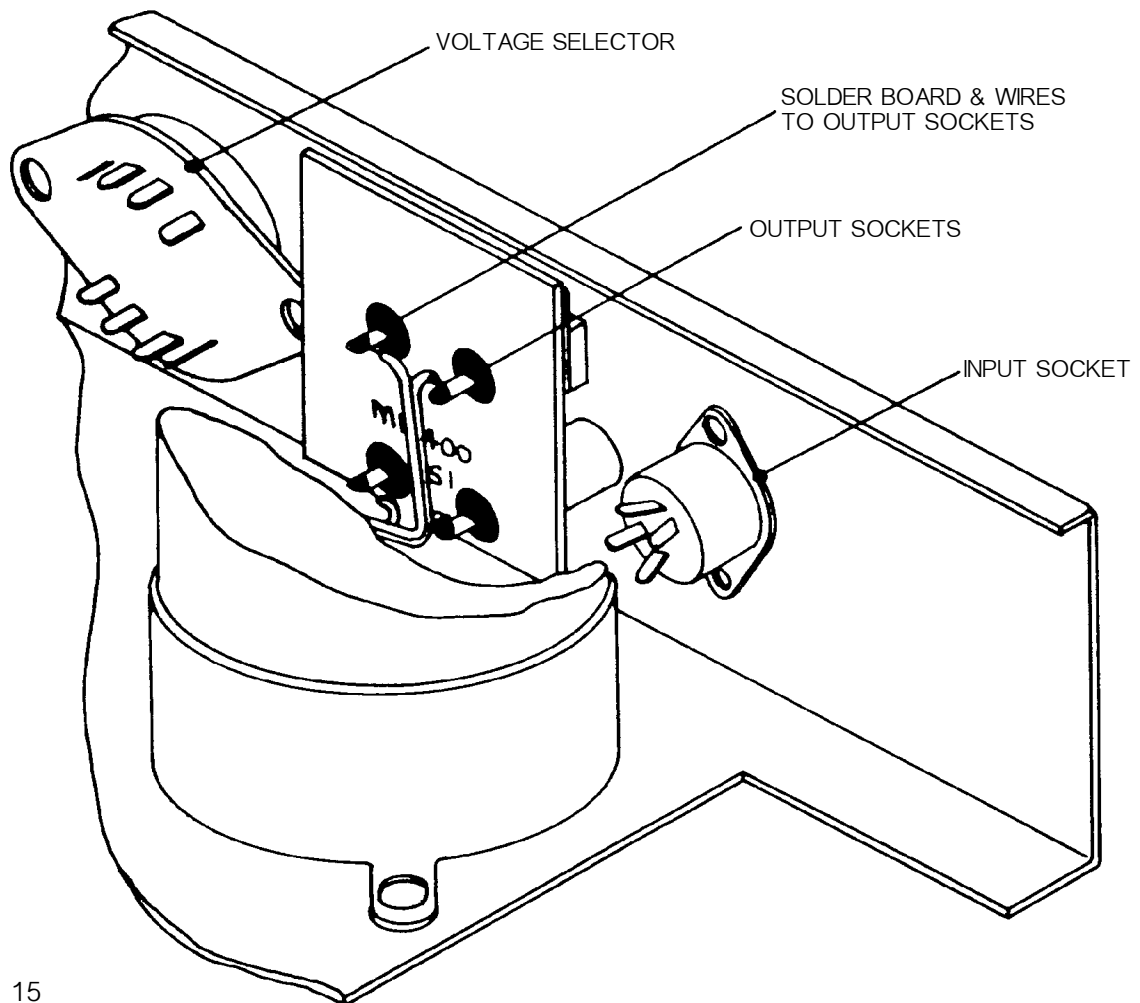

Fig. 15
- Also at s/n 9000 a clamp circuit, on PCB M12400, was mounted on the output terminal (Fig. 15).